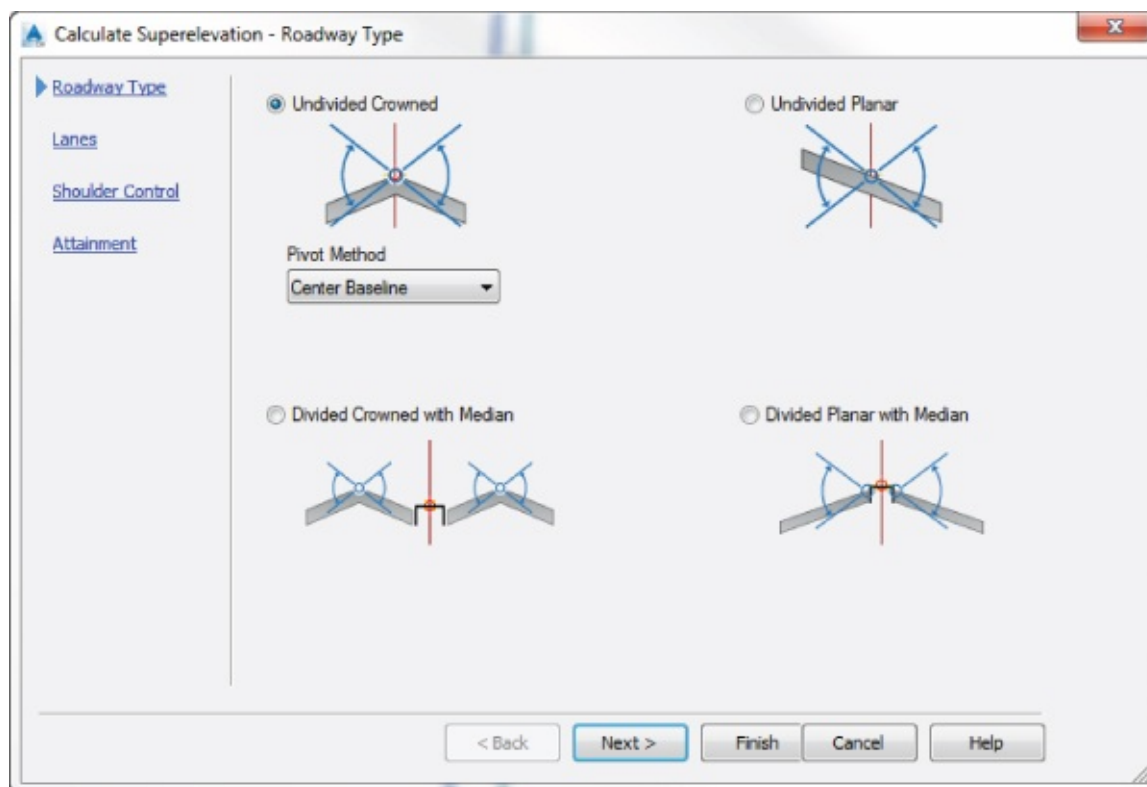

Figure 11.13 Roadway type specification for superelevation
6. From the Pivot Method drop-down, choose Center Baseline, as shown in Figure 11.13, and click Next.